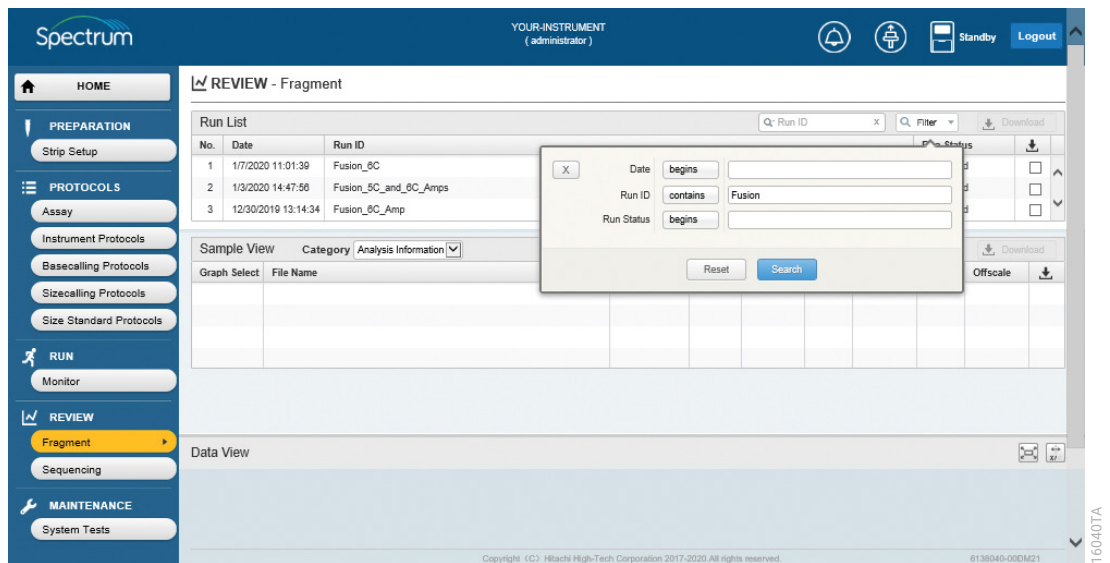

Figure 92. 'Run List' search filter option selection.
- After selecting the appropriate filter for search terms in the field being searched (i.e., Date, Run ID or Run Status), type the desired search term in the adjacent box and select **Search** (Figure 92). Alternatively, select **Reset** to exit.